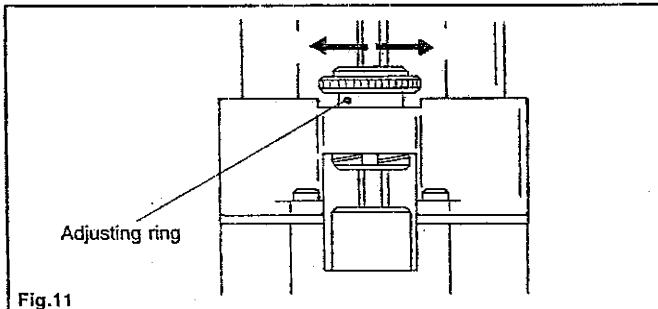

Fig.11
15. Adjusting the tightening depth (Fig. 11)